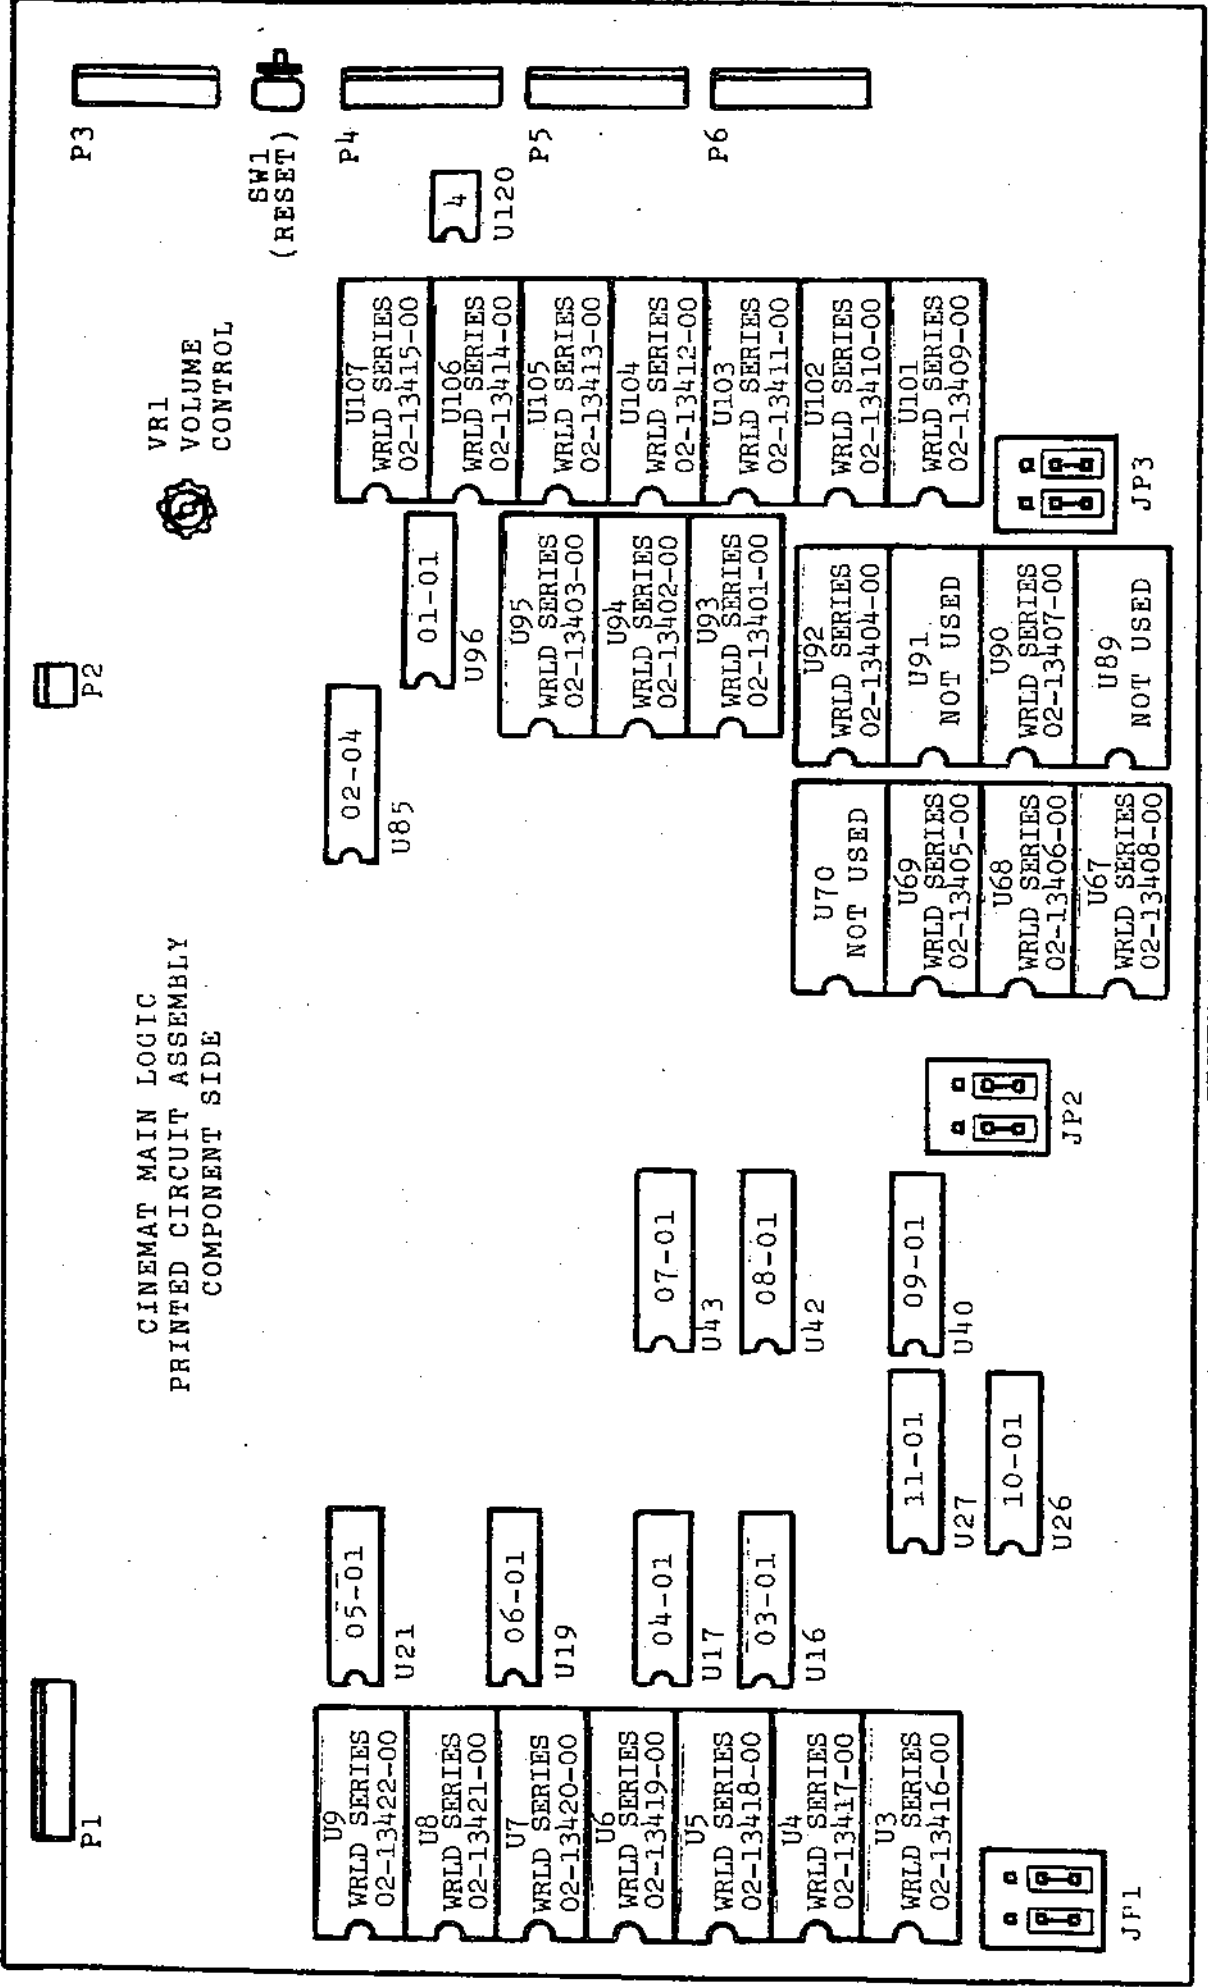

FIGURE 2
- 1) Install the 22 WORLD SERIES eproms in the Cinemat main logic board noting the chip location ("U" number) printed on each chip and referring to Figure 2. Noting the location of pin 1 of both the eprom and socket, plug each eprom into the socket indicated. Be sure all eproms pins are aligned and the eproms are pressed firmly in place.